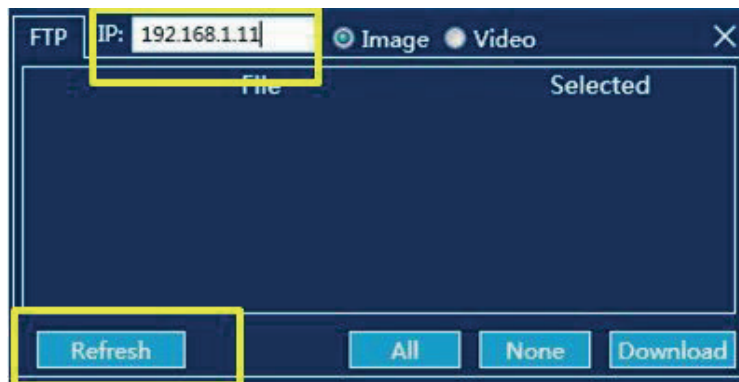

Figure 3-3
3. Open the infrared analysis software, click “Data Import” - “FTP” - “Local”, enter the device IP address, and click the bottom “Refresh” in the left corner, so that the list automatically shows all pictures stored in the device. Check the target picture, and click the button “Download” so as to import the selected picture into the specified directory of the machine (if the user doesn’t know the storage path, please enter the “Settings” - “Other” - “Picture Storage Path” of the software to view). See Figure 3-3: